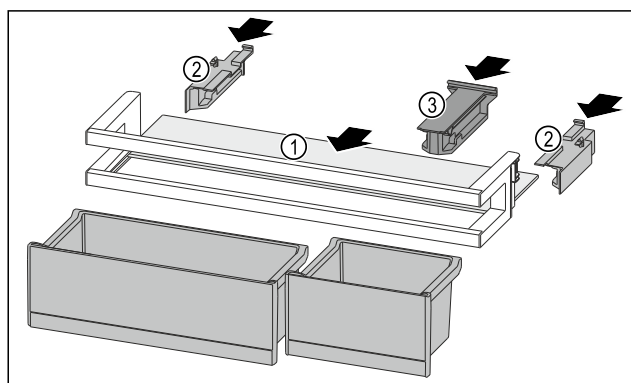

Fig. 127
- Push the shelf Fig. 127 (1) into the side recesses.
- Insert the side parts Fig. 127 (2).
- Insert the holding part Fig. 127 (3).